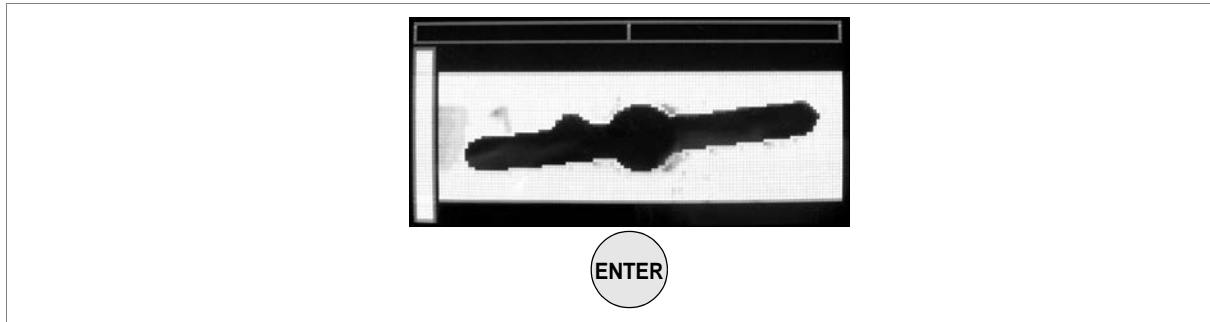

Fig. 24
- For bit keys, if the profile appears to slope (fig. 24), it must be aligned horizontally so that the cuts can be read properly.